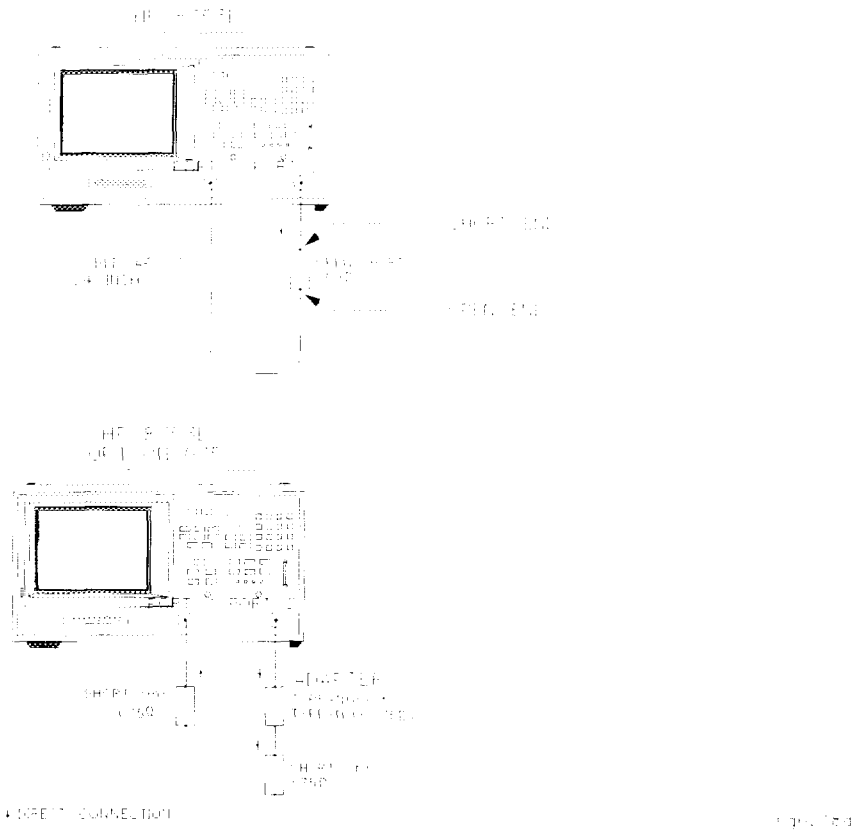

Figure 4-18. Test Port Crosstalk Test Setup
- 1 Connect the equipment as shown in Figure 4-18.